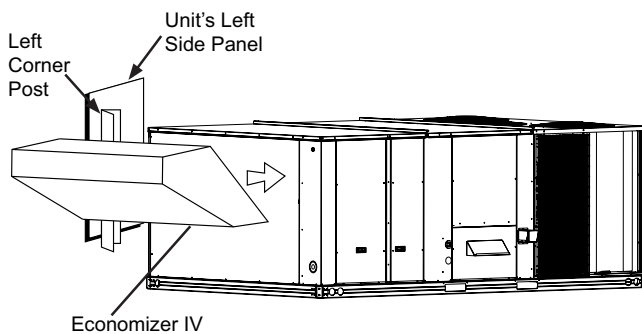
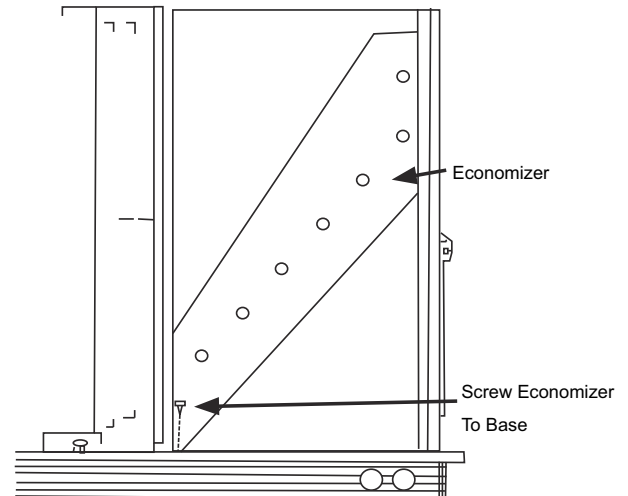

Fig. 19 — Unit Left Side Panel and Corner Post
Fig. 20 — Side View
5. Install economizer, as shown in Fig. 19, into the return air section of the unit. Be careful not to pinch the wires during installation. Bottom of economizer will rest on the base of the unit. (See Fig. 20.)
7. Insert provided screw through the bottom left rear of the economizer and into the unit base. (See Fig. 20.) Install the new (provided) left side panel - without the duct opening on the unit.